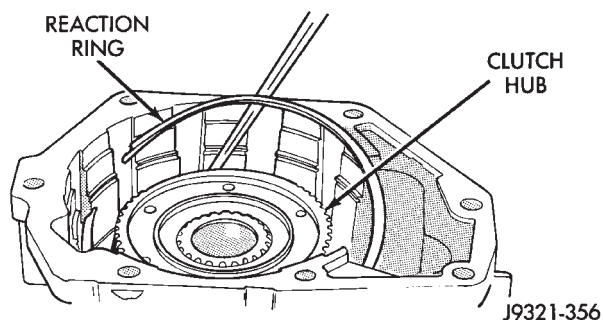

Fig. 63 Overdrive Clutch Reaction Ring Installation
(1) Install overdrive clutch reaction ring first. Reaction ring is flat with notched ends (Fig. 63).